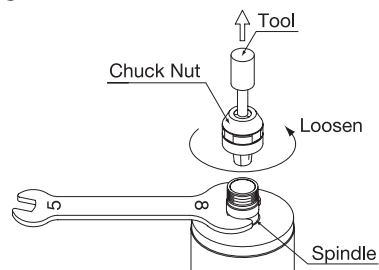

Fig. 4
- Remove the cutting tool according to “4 CHANGING TOOLS” procedure above and remove chuck nut assembly. (Fig. 4)